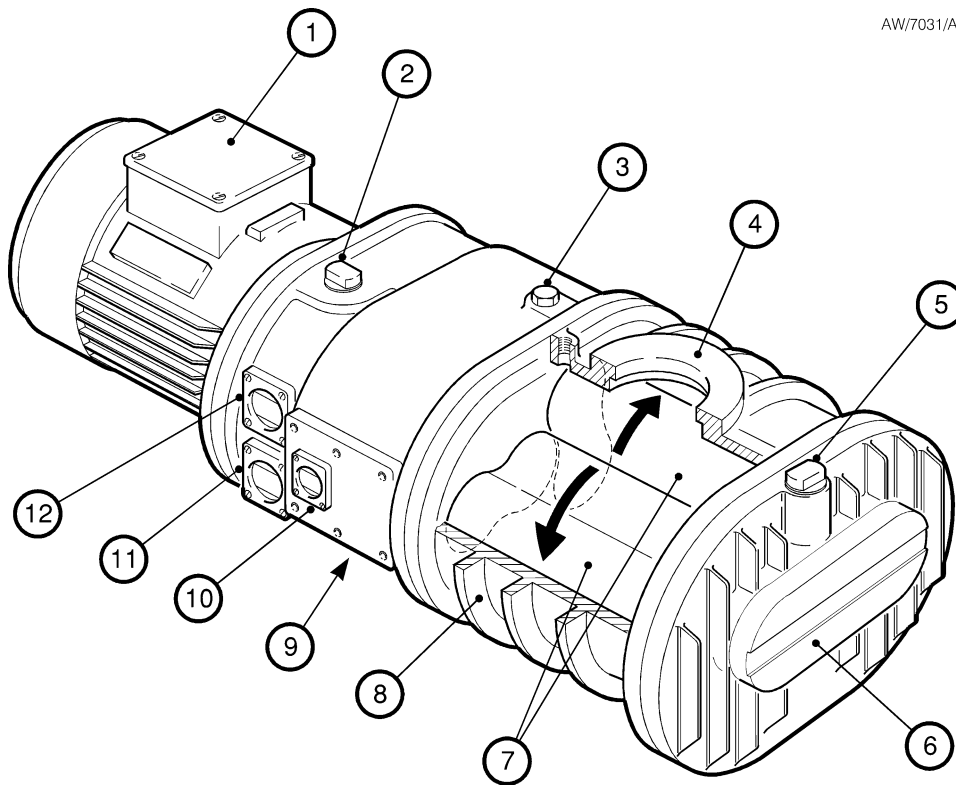
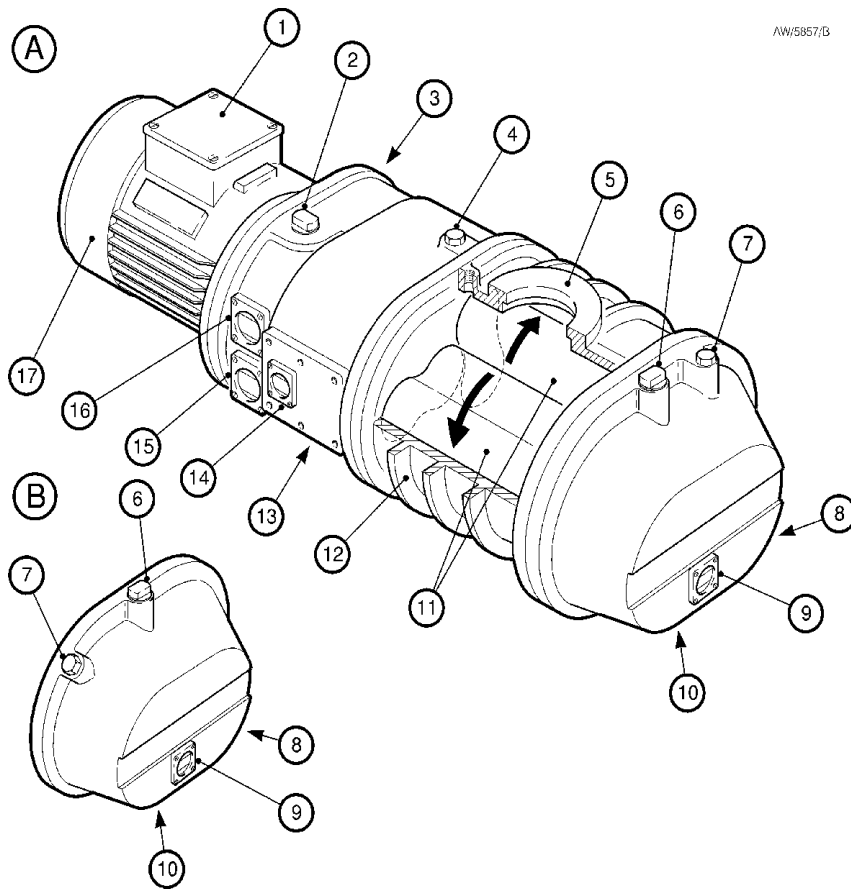

Figure 1 – ZRS 250 and ZRS 500 pump variants
Figure 2 – ZRS 1200, ZRS 2600 and ZRS 4200 pump variants
On all ZRS pumps, the hydrokinetic drive/gearbox is connected to the pump outlet by a pressure equalisation passageway, and forms an integral part of the vacuum system. The connecting passageway has a filter which removes debris and so prevents contamination of the lubricating oil and bearings. For an even cleaner system, you can evacuate the end-cover/gear cover by connection of the evacuation port (Figure 1, item 5 or Figure 2, item 6) to the pump-inlet or to an external vacuum pump.
The ZRS pump is shown in Figure 1 and 2. The motor-shaft drives one of the rotors through the hydrokinetic drive. The 1:1 gears inside the hydrokinetic drive/gearbox drive the second rotor in the opposite direction inside the stator housing. A small, accurately gauged, clearance is maintained between the rotors and between each rotor and the stator wall. This clearance allows the ZRS pump to operate at high speed without mechanical wear and without the need for lubrication inside the swept volume.